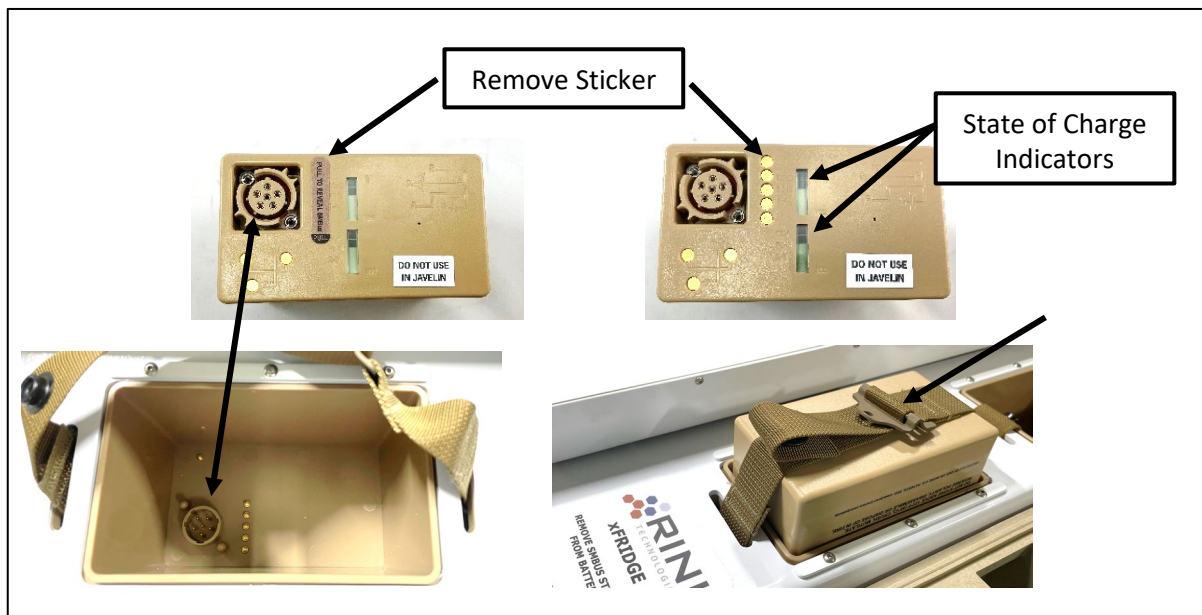

Figure 7: BB-2590 Installation
1. Verify SMBus sticker has been removed and that each bank has at least a one-segment State-of-Charge, as shown in Figure 7.